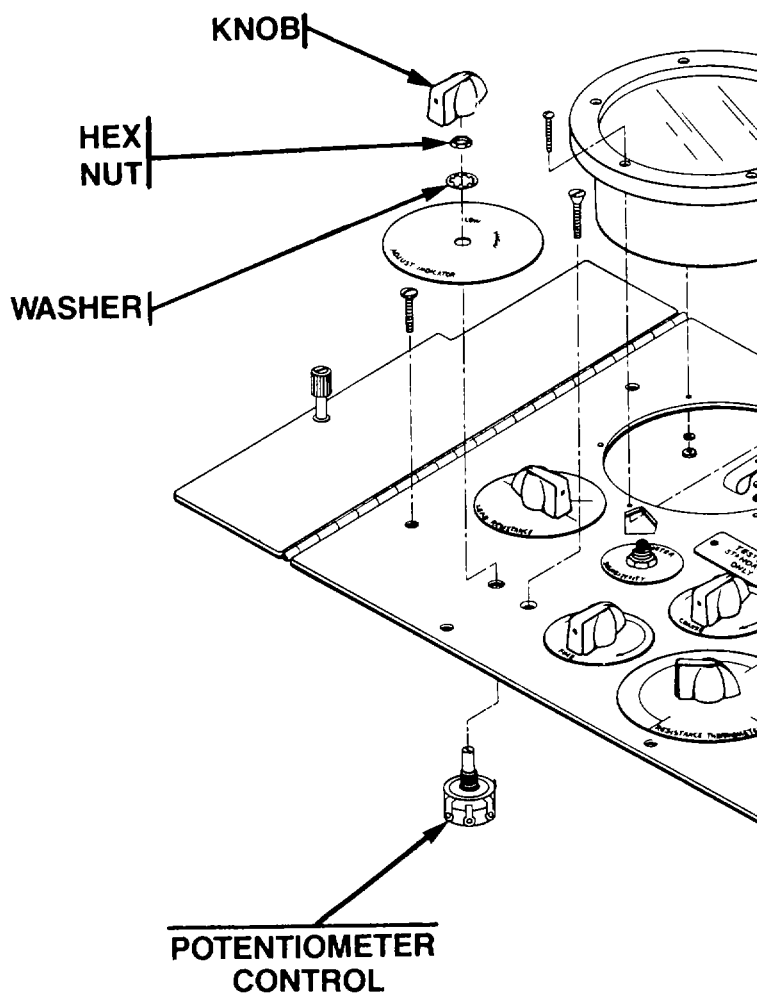

Figure 3-10. Instrument Panel Controls
- (1) Unsolder leads from faulty rotary switch or potentiometer, and mark leads with tape.
- (2) Use 3/8 inch open-ended wrench to unscrew hex nut on top side of panel, securing control and lockwasher.
- (3) Secure replacement control with nut and lockwasher.
- (4) Solder leads back onto control, observing tape markings (See Figure 3-10).